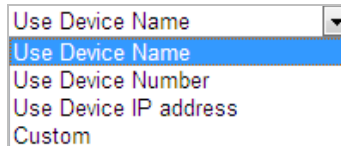

Figure 6-9 Parent Directory
- ◆ **Parent directory:** The files will be saved in a folder in FTP server. The name of folder can be defined as shown in following Figure 6-9.